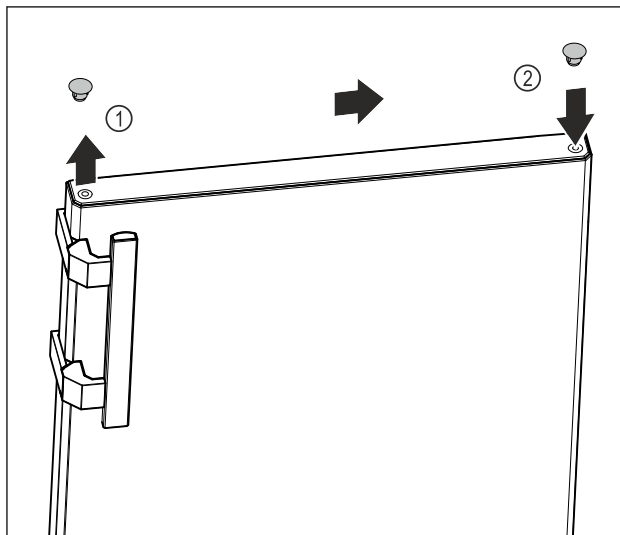

Fig. 9
- ▶ Carefully lift the cover plug on the top of the door Fig. 9 (1) with a slotted screwdriver.
- ▶ Insert the cover plug on the opposite side. Fig. 9 (2)